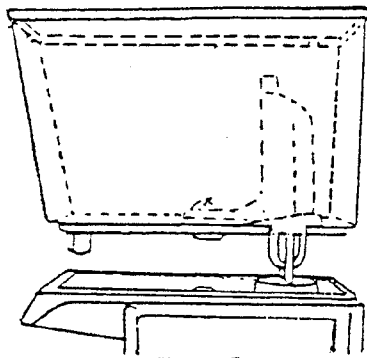

Figure 5
7. Slide bowl over the cooling tubes and assembly the bowl to the dispenser. Be careful not to wrinkle gasket as it will result in beverage leaking out of bowl (refer to Fig. 5).